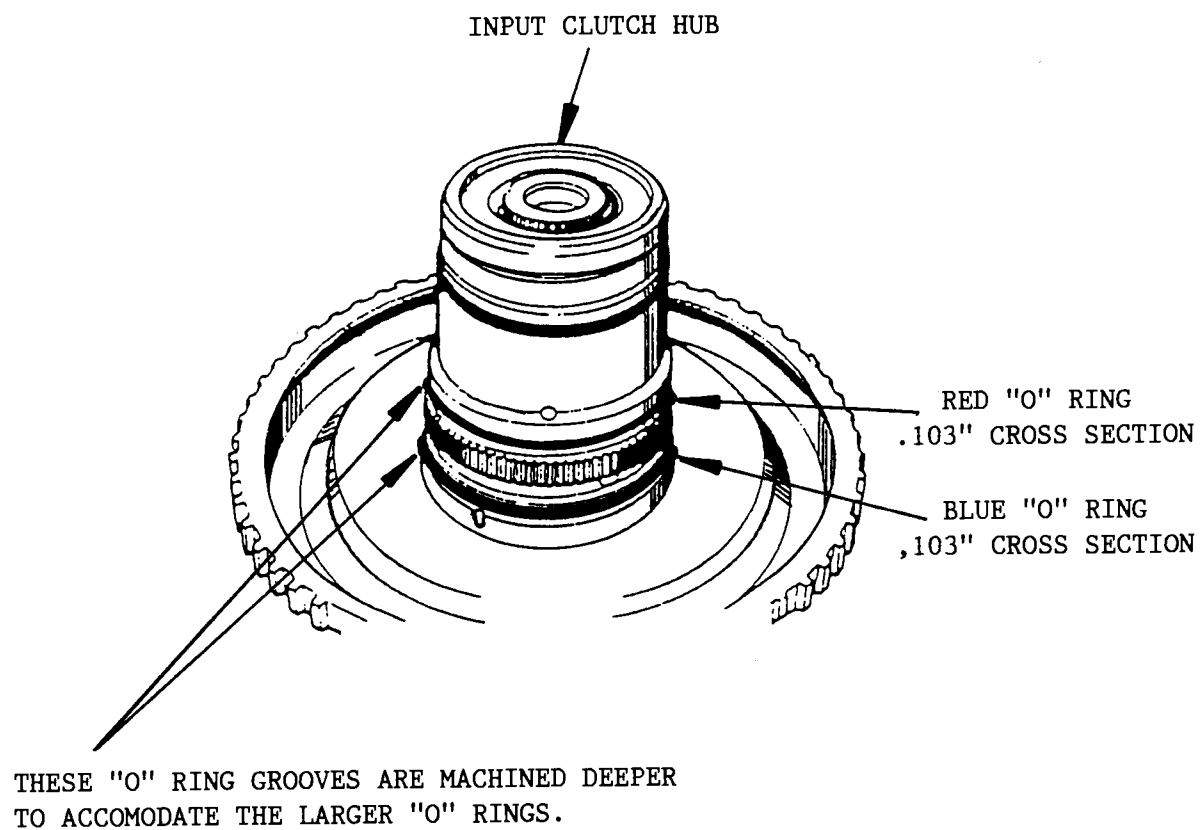

Figure 29
- (1) INPUT CLUTCH HUB - The "O" ring grooves on the Input Clutch Hub are cut deeper to accomodate the larger cross section color coded "O" rings (See Figure 29).